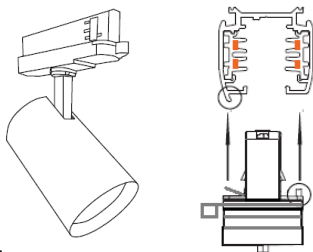

Fig. 1
- Provide powered track to the required point of installation. Check it is compatible for spotlight (Fig. 1)